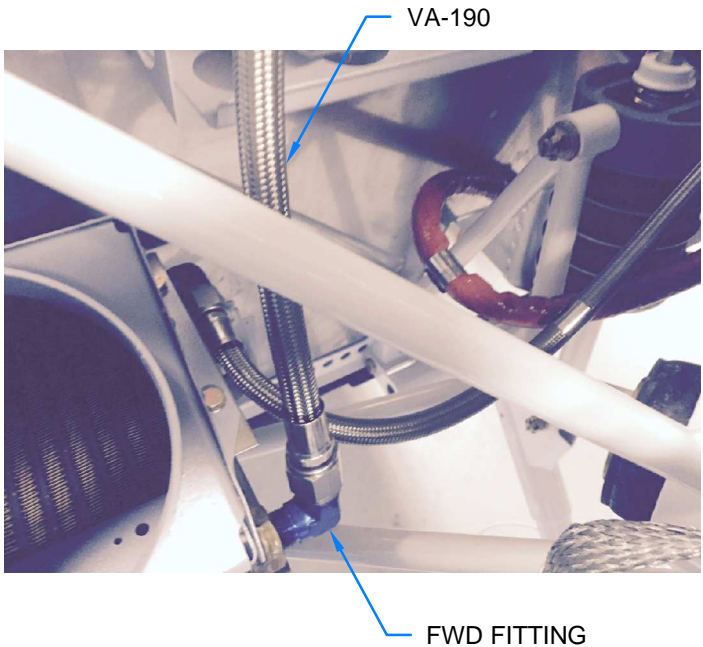

FIGURE 4: FWD OIL COOLER PORT
Step 3: Install the free end of the VA-190 Hose to the fwd fitting in the oil cooler as shown in Figure 4.